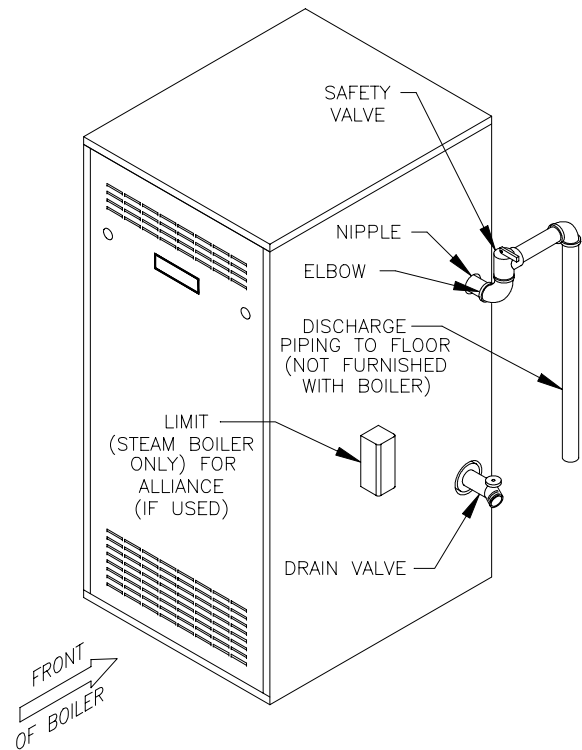

Figure 23: Trim Installation
- B.** Install Safety (Relief) Valve in Tapping "E" ($\frac{3}{4}$ NPT). See Figure 23. Use $\frac{3}{4}$ NPT x 3" nipple and $\frac{3}{4}$ NPT elbow provided. Safety (Relief) Valve must be installed with spindle in vertical position.
- C.** Install Drain Valve in Tapping "F" (2 NPT bushed to $\frac{3}{4}$ NPT). See Figure 23.
- b. Limit. See Figure 23. Install temperature limit control (Honeywell L4006A or equal) in Tapping "P" (3/4 NPT). See Figure 2. Set at 180°F to prevent steam production during non-space heating periods.